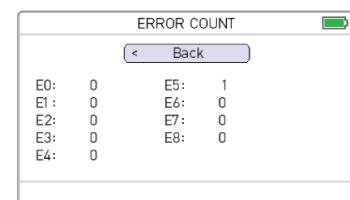

Figure 49. Error count
2. Press . ERROR COUNT is shown (See figure 49)